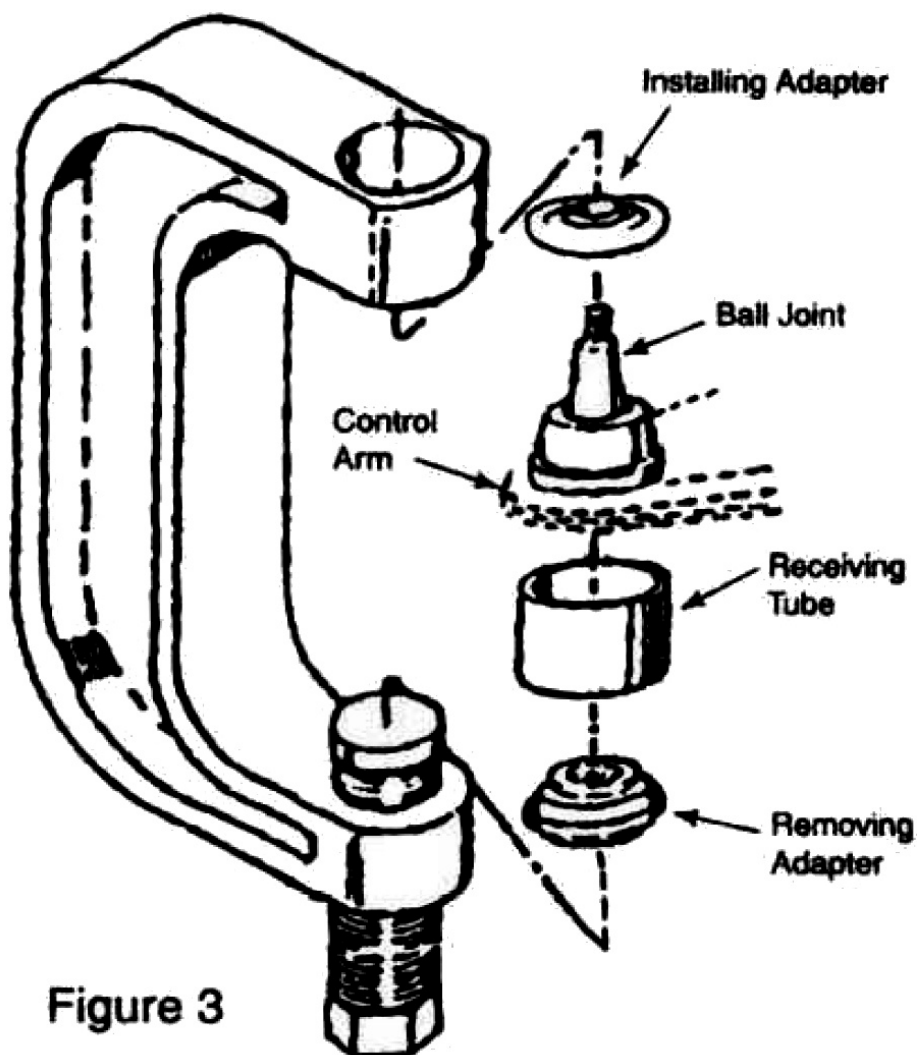

Figure 3
1. Install the ball joint press on the control arm as shown in Figure 3. Select the appropriate size pickup tube (item 6, 7 or 8) and place it under the vehicle's ball joint (see Figure 3).